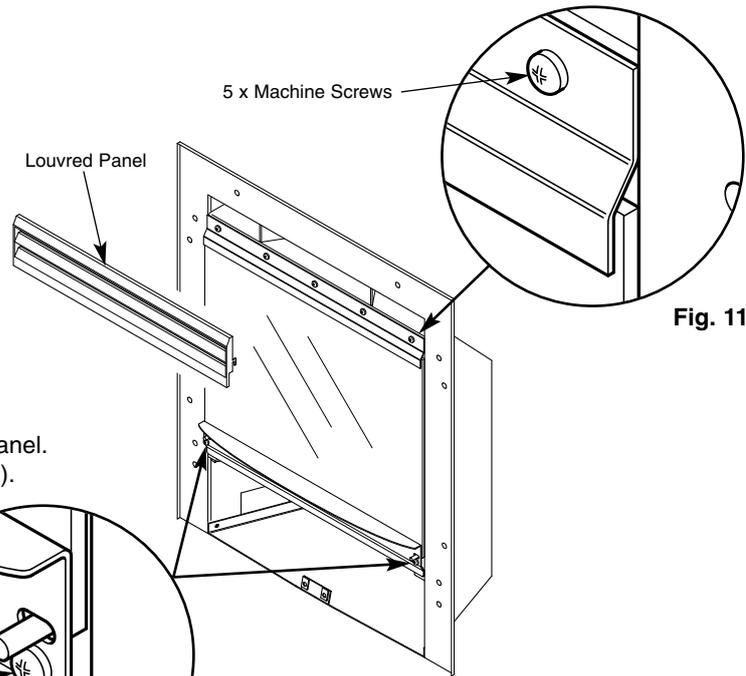

Fig. 11
3. Slacken the five machine screws on the top retaining strip (Fig. 11).